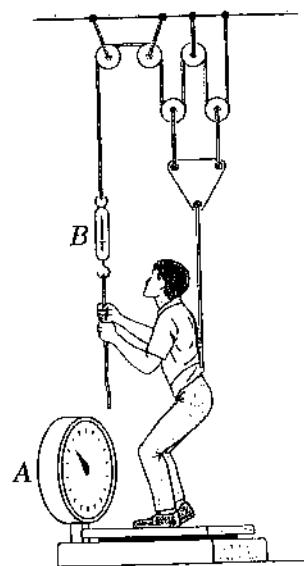

Fig. Q4
4. A former student of mechanics wishes to weigh himself but has access only to a scale A with capacity limited to 400 N and a small 80-N spring dynamometer B. With the rig shown in Fig. Q4 he discovers that when he exerts a pull on the rope so that B registers 76 N, the scale A reads 268 N. What is his correct weight?